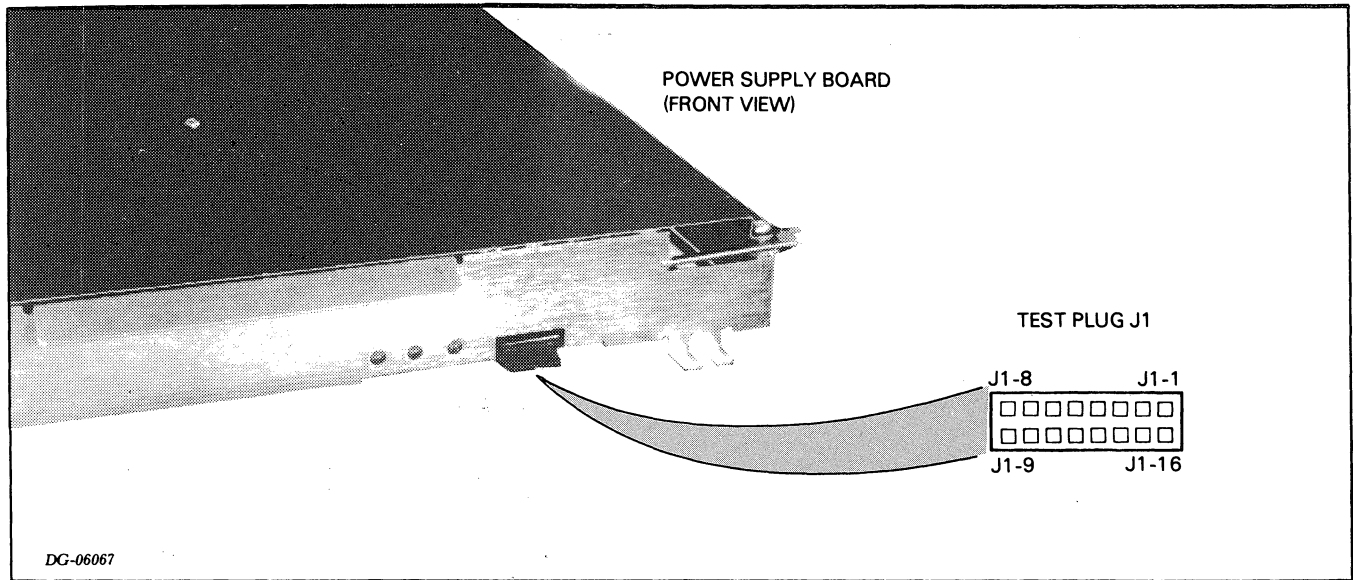

Figure 6.8 TEST PLUG
2. Check the +5V voltage at test plug J1-15 (see Figure 6.8). If +5V is between 5.10V and 5.20V, go to "Final Checkout"; otherwise, continue the checkout.
- If -11V is NOT between -11.0V and -12.5V (-30VNR not ok), check the **VREF** at test plug J1-14 (see Figure 6.8). If **VREF** is 5.8V, replace the VNR unit; otherwise, replace the power supply board.
- If -11V is between -11.0V and -12.5V (-30VNR ok), check the **HVS** voltage at test plug J1-4 (see Figure 6.8). If **HVS** is greater than 2.9V, replace the power supply board; otherwise, replace the VNR unit.
6. Recheck the +5V voltage at test plug J1-15 (see Figure 6.8). If it is between 5.10V and 5.20V, go to "Final Checkout"; otherwise, try replacing the internal cable (wiring harness). If this does not work, get help from DGC Field Service.
- Make sure the LOCK switch is in the UNLOCK position. If the fans still do not stop, check the $\overline{\text{PWR FAIL}}$ voltage at test plug J1-3 (see Figure 6.8).
- If $\overline{\text{PWR FAIL}}$ is less than 0.4V, check $\overline{\text{PON}}$ at test plug J1-11 (see Figure 6.8). If $\overline{\text{PON}}$ is less than 0.4V, replace the VNR unit; otherwise, replace the power supply board.